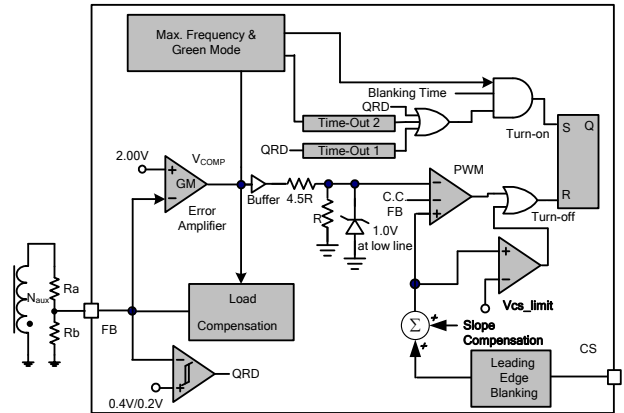

Fig. 18
The LD9174 employs quasi-resonant (QR) switching scheme to switch in valley-mode either in CV or CC operation. This will greatly reduce the switching loss and the ratio dv/dt in the entire operating range for the power supply. Fig. 18 shows the typical QR detection block. The QR detection will detect auxiliary winding signal to drive MOS as FB pin voltage drops to 0.2V. The QR comparator will not activate if FB pin voltage remains above 0.4V.